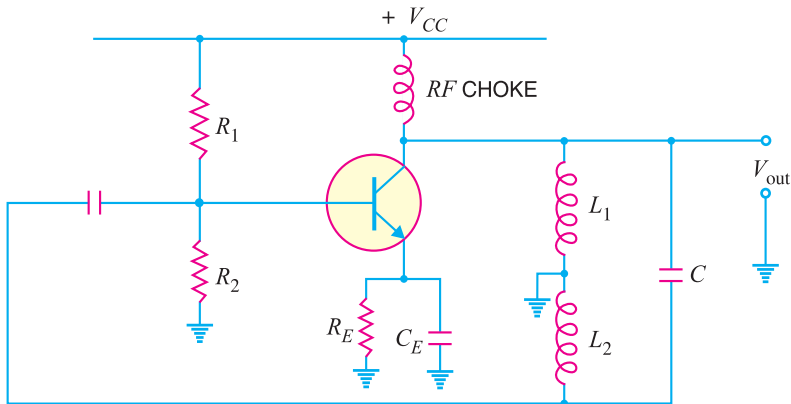

Fig. 14.25
2. Figure 14.25 shows the Hartley oscillator. If $L_1 = 1000 \mu\text{H}$, $L_2 = 100 \mu\text{H}$ and $C = 20 \text{ pF}$, find the (i) operating frequency and (ii) feedback fraction. [(i) 1052 kHz (ii) 0.1]
4. For the Hartley oscillator shown in Fig. 14.25, $C = 250 \text{ pF}$, $L_1 = 1.5 \text{ mH}$, $L_2 = 1.5 \text{ mH}$ and $M = 0.58 \text{ mH}$. Determine the operating frequency. [159.2 kHz]